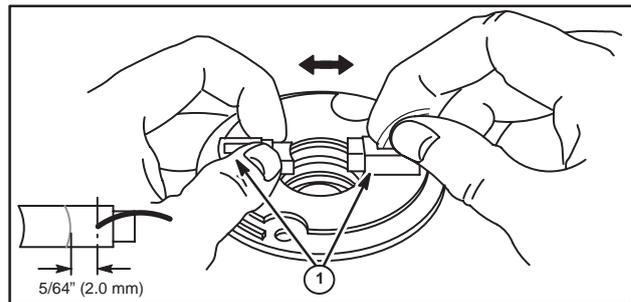

Fig. 36
- Before removing armature from end cap, check brushes (1) for freedom of movement. If brushes stick in their retainers, repair before reassembly, Fig. 36.